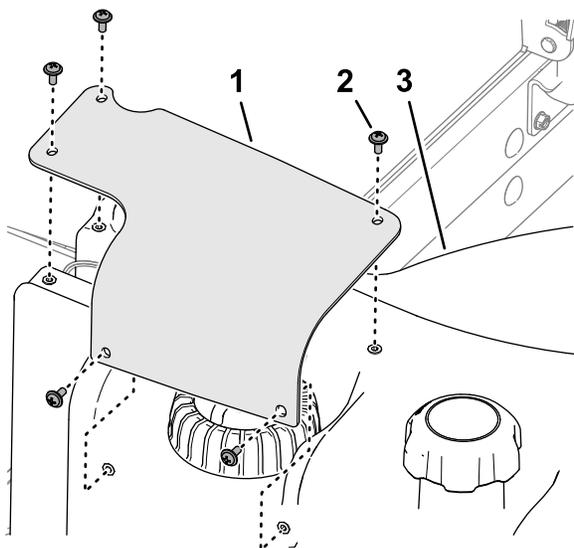

Figure 131
7. Align the holes in the fuel-sender cover with the holes in the fuel tank, and secure the cover to the tank with the 5 Phillips-head screws (Figure 131).